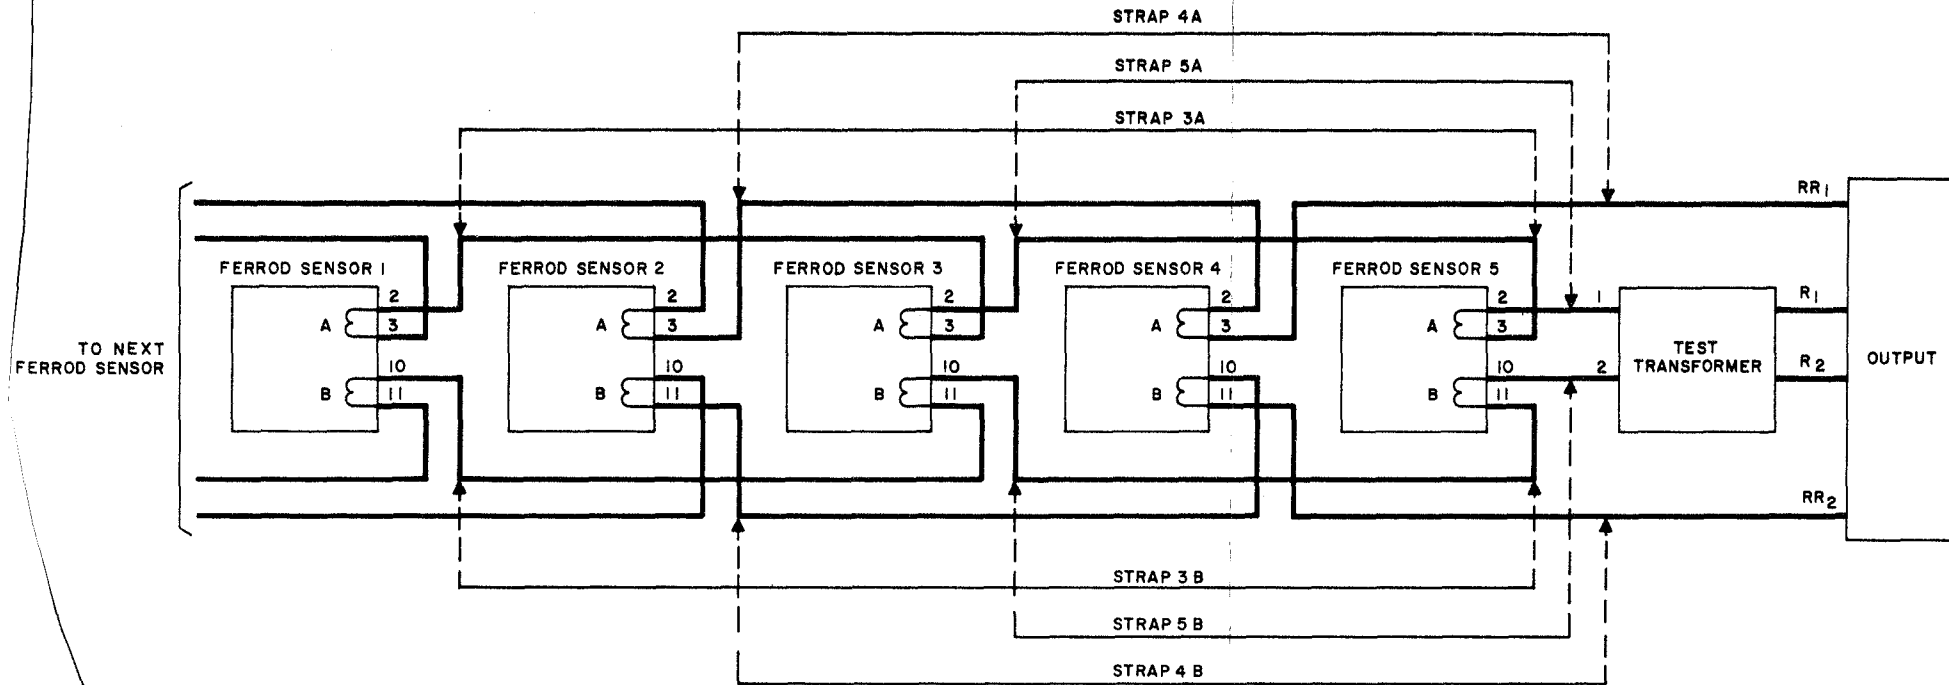
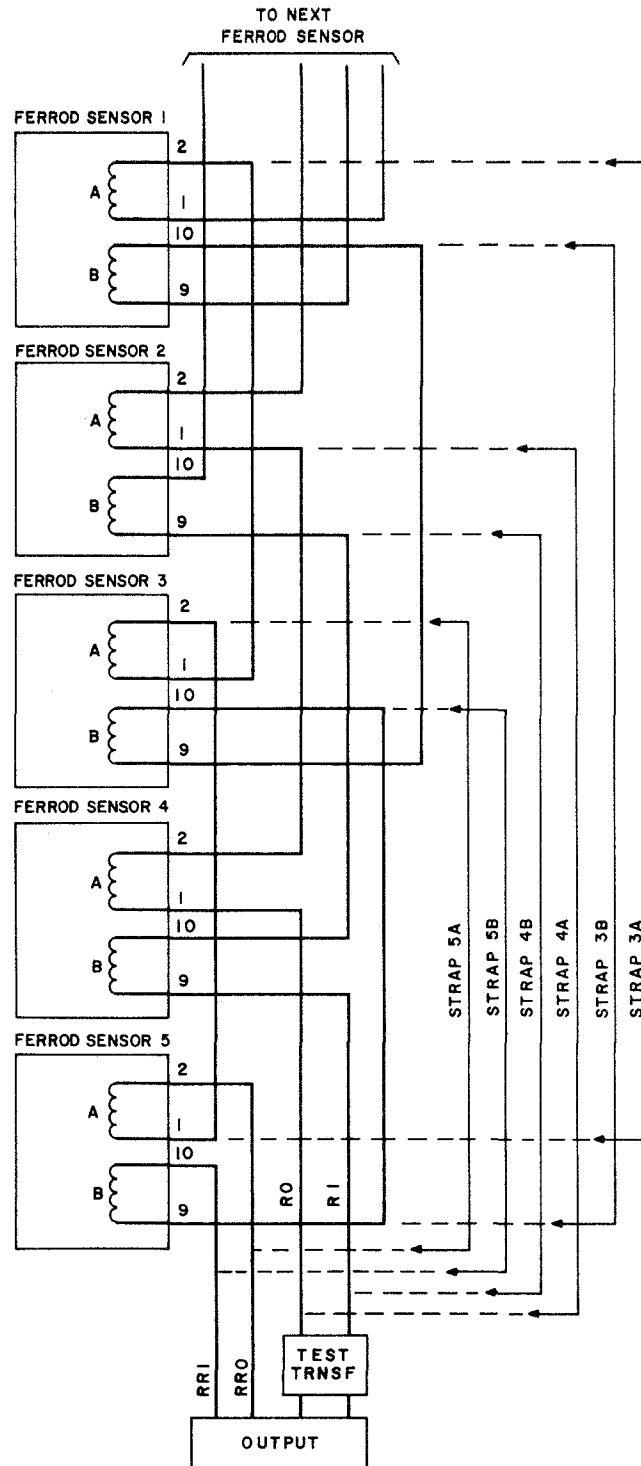

Fig. 9—Typical Readout Winding Straps for Ferrod Sensors in Line Scanner
Fig. 10—Typical Readout Winding Straps for Ferrod Sensors in Junctor, Universal Trunk, Miscellaneous Trunk, and Master Scanners
- (6) Strap around both readout windings of the faulty ferrod sensor (Fig. 9 or 10) as indicated in Table A. Typical strapping arrangements for the line scanner readout windings are shown in Fig. 9. Figure 10 shows typical strapping
arrangements for the readout windings in all other scanner circuits. The straps in Fig. 9 and 10 are numbered to correspond with the ferrod sensor being strapped out of the circuit. For example, if ferrod sensor 5 is faulty, use straps 5A and 5B.